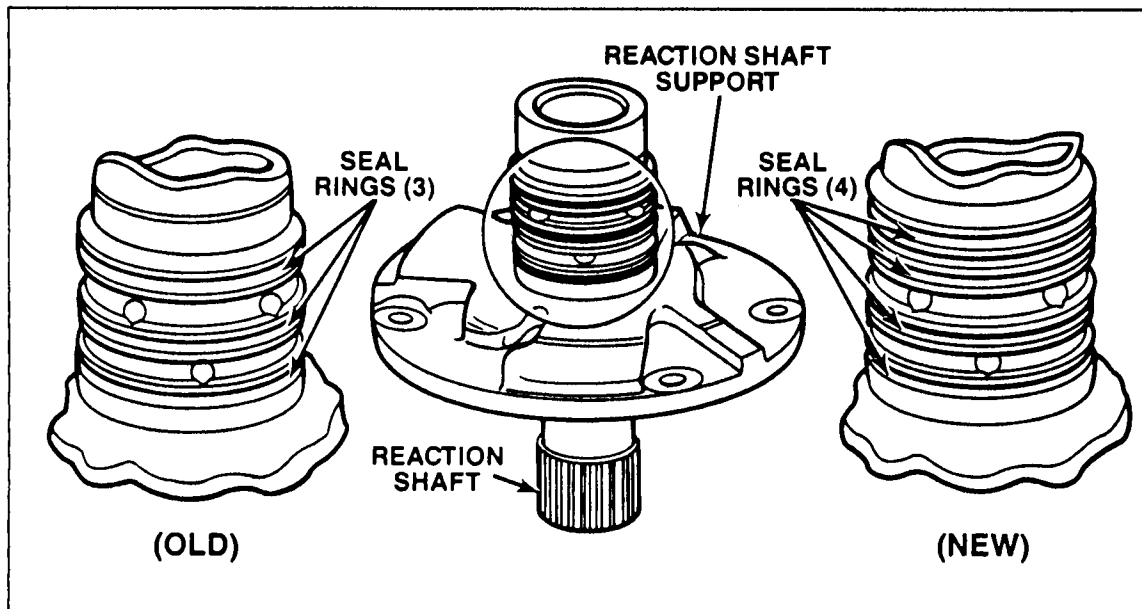

Figure 1
CHANGE: Beginning in April, 1989 a new Reaction Shaft Support (Stator) was introduced, with the addition of another ring groove and sealing ring. The old support has 3 sealing rings, and the new support has 4 sealing rings (See Figure 1).
- (1) REACTION SHAFT SUPPORT - The new support is longer, and has 4 sealing rings, where the old support only has three (See Figure 1).